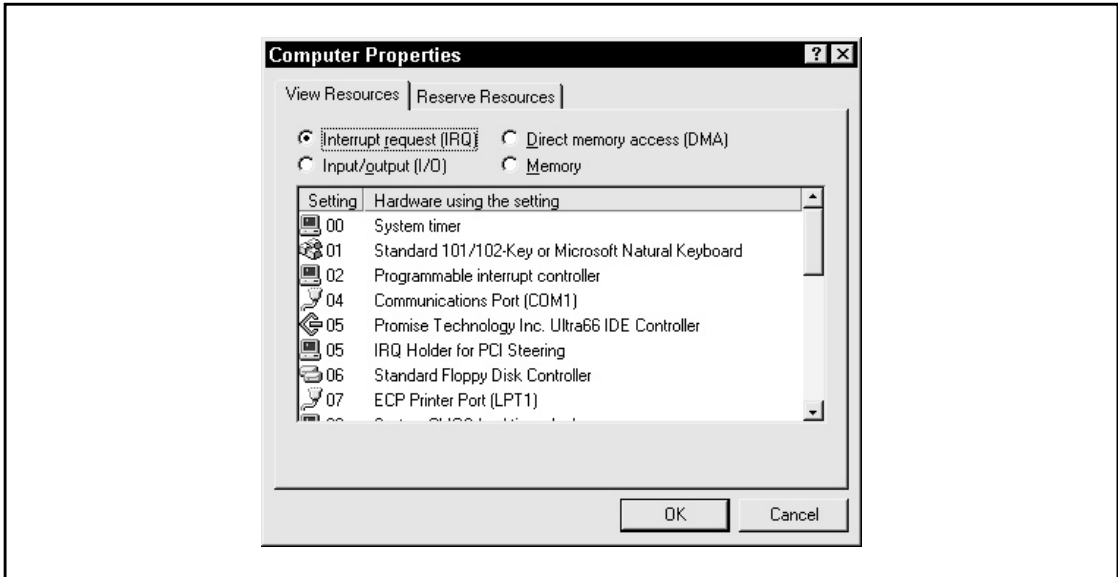

Figure 11-20. System resource conflicts will show up on the Computer Properties window of the Windows Device Manager
1. If you can boot the system and the problem is that a new card or an existing device is not working correctly, use the operating system's device manager to verify that no system resource conflicts exist. On a Windows system, access the Device Manager through either My Computer's properties or the System icon on the Control Panel. Figure 11-20 shows the Computer Properties screen.